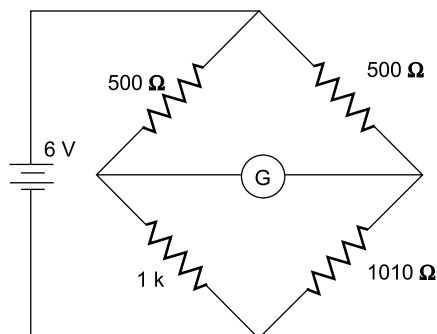

Fig. 11.31
5. If the sensitivity of the galvanometer in the circuit of Fig. 11.31 is $10\ \text{mm}/\mu\text{A}$, determine its deflection.